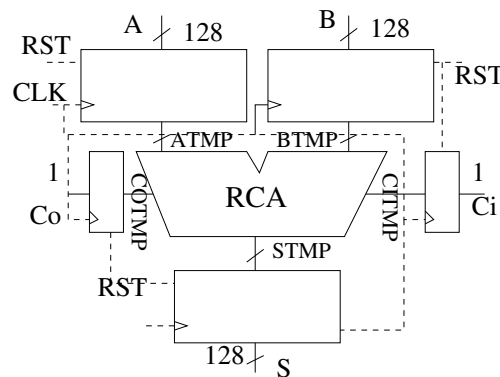

Figure 6.1:
Your first exercise will be to work on a simple SUM structure organized as in figure 6.1 based on a registered 128 bit RCA (the same you used in a previous lab). You have the vhd files, and, as Innovus starts from a verilog netlist, you have the verilog file as well **sum.v**.
**Structuring the Floorplan** At this step Innovus sets the area to be assigned to the cell ensemble and the area where the power supply ring will be routed as shown in figure 6.1.